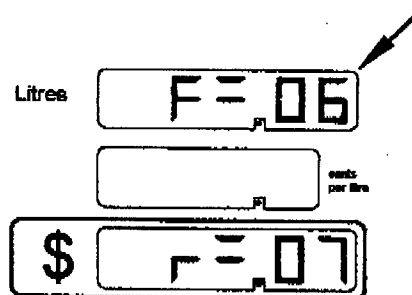

Fig. 3 - Fuelling Position Numbers - FRONT
- ☐ On the front Main Transaction Display, the display digit second from the right on the Litres display will flash the *current* Fuelling Position number for the *front* of the pump/dispenser. Refer to Fig. 3.